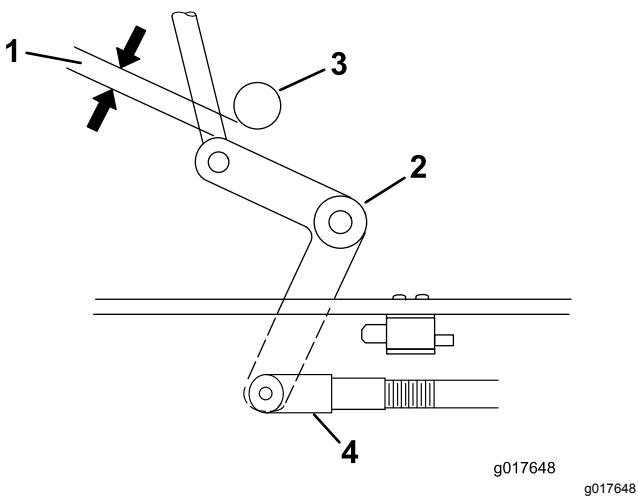

Figure 44
4. Adjust the linkage length to where the lower end of the bellcrank just clears the axle-support gusset (Figure 44).
9. Loosen the nut against the yoke (Figure 44).